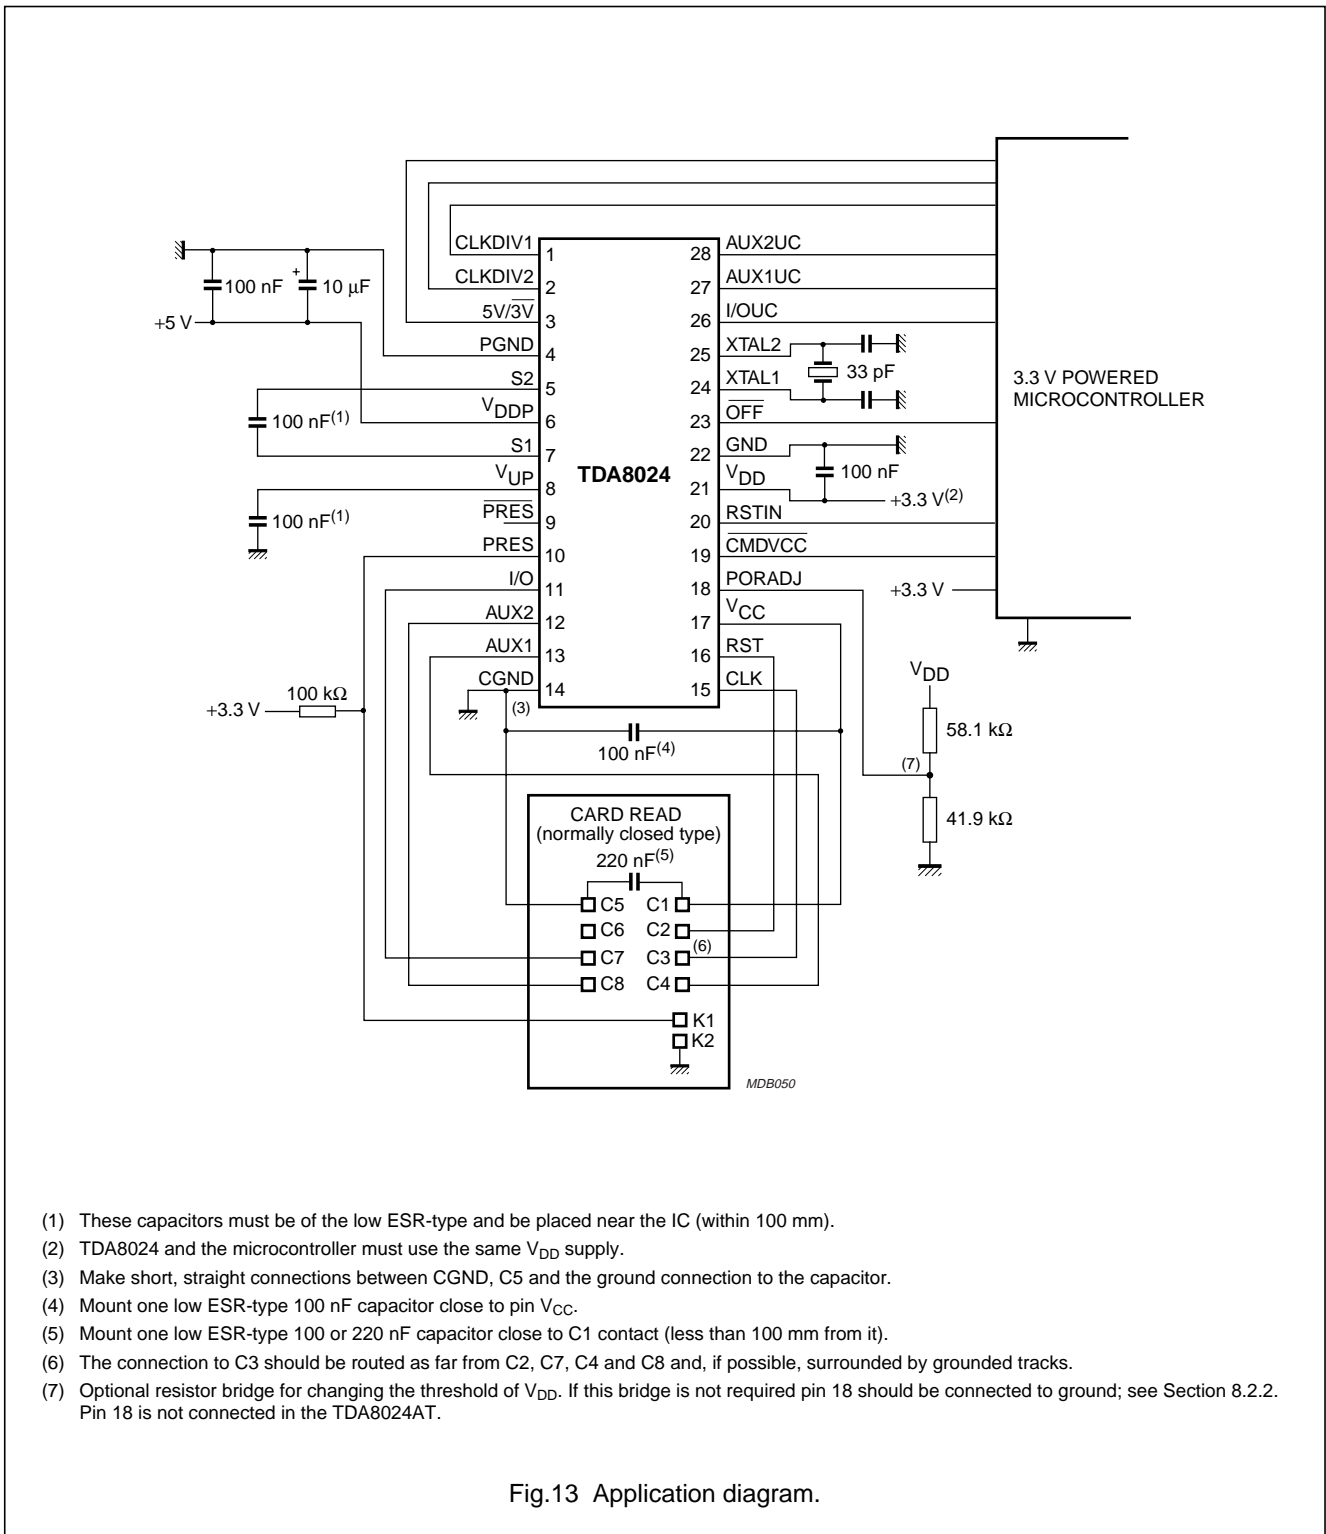

Fig.13 Application diagram.
3. To meet these specifications, pin V_{CC} should be decoupled to CGND using two ceramic multilayer capacitors of low ESR both with values of 100 nF, or one 100 nF and one 220 nF (see Fig.13).